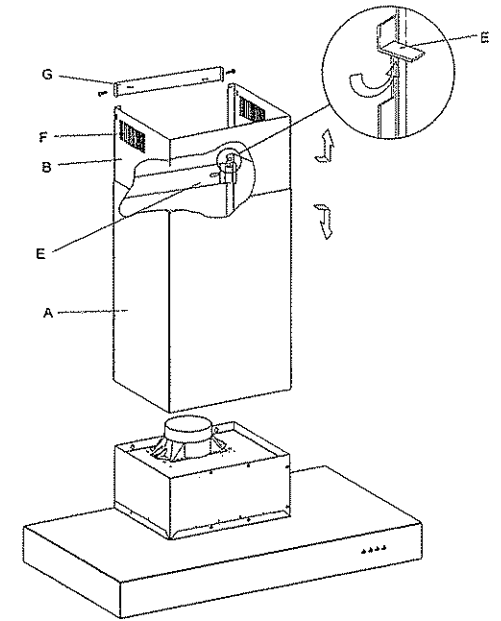
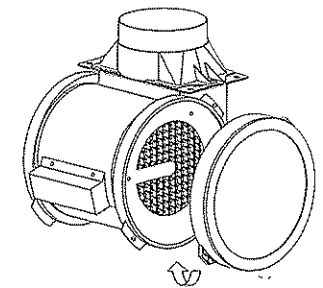

Fig.2
Fig.4
In this case, air is circulated through opening F (Figure 2). In order for the hood to function as a filtering purifier, two active carbon filters, supplied as separate accessories, must be used. The active carbon filters must be replaced periodically to work properly, at least once every three months (depending on the frequency with which the hood is used). (Fig. 4).
- Mark the wall at the location of support E (Figure 2) according to the heights and specifications shown on the attached jig.
- Place tube A with the extendible part B hanging on the inside, making sure that flange D is correctly lodged in the support E (fig. 2).